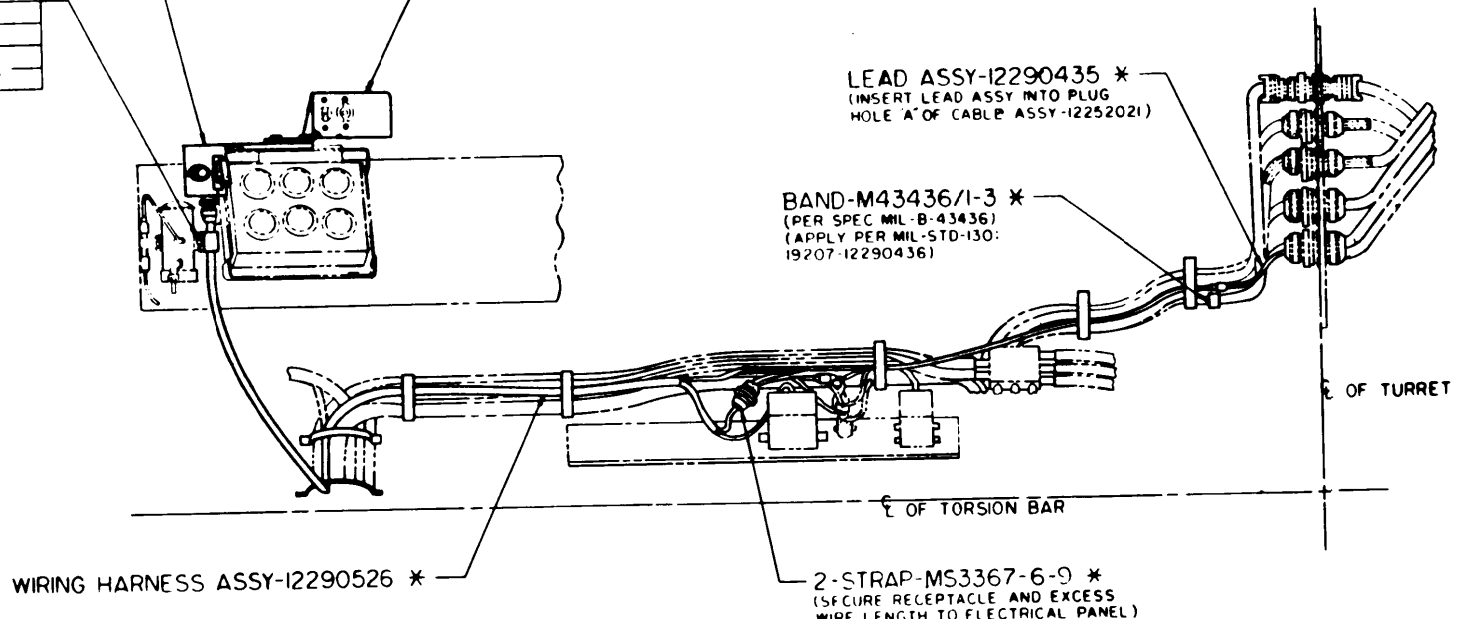

Figure 40. Front View of Harness Kit Installation for M728
(15) Secure the receptacle and excess cable with two straps MS3367-6-9 as shown (refer to figures 40 and 41).
(16) Route the single lead of the kit wiring harness, along the existing harness, up to the starter harness receptacle (refer to figures 40 and 41).
(21) Stamp harness part no. 12290436 into new identification band MS43436/1-3 for the M60A1 and M728 vehicles (refer to figures 40, 41, 42 and 43).